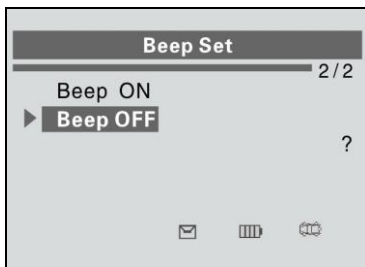

Figure 3.13
- 2) From **Beep Set** menu, use the **UP/DOWN SCROLL** button to select **Beep ON** or **Beep OFF** to turn on/off the beep. (Figure 3.13)